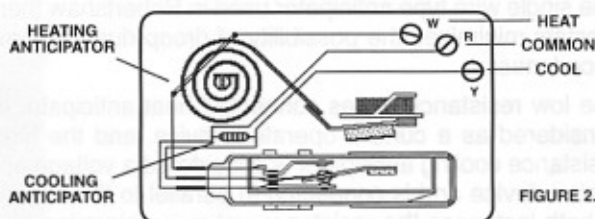

FIGURE 2.
**Heating anticipators** are an adjustable, low resistance, current operated element connected in series with the contacts. **Cooling anticipators** are a fixed, high resistance, voltage operated resistor placed in parallel with the contacts. (Figure 2).